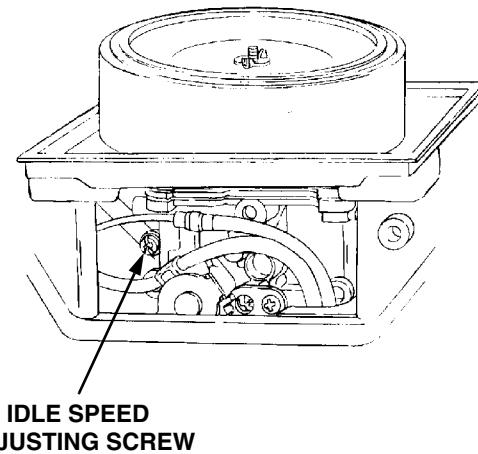

Figure 18
2. **Idle Speed Setting:** Place the throttle control into the "idle" or "slow" position. Set the low idle speed to **1200 rpm** (± 75 rpm) by turning the low idle speed adjusting screw in or out. Check the speed using a tachometer (See Figure 18).